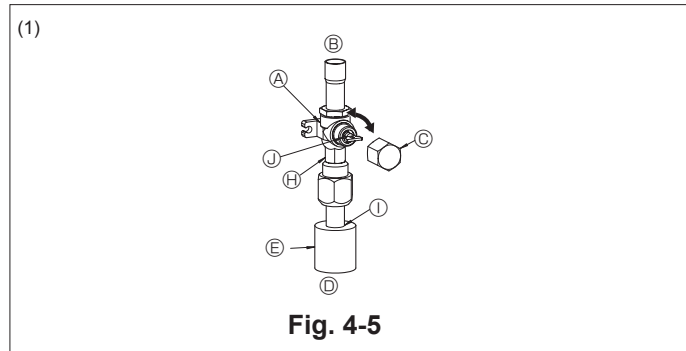
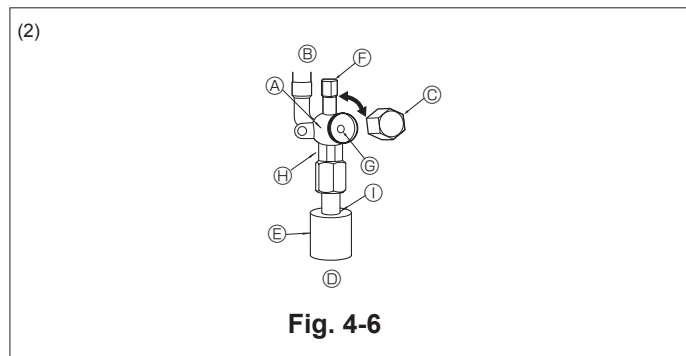

Fig. 4-5
Fig. 4-6
- (1) Gas side (Fig. 4-5)
- ① Remove the cap, pull the handle toward you and rotate 1/4 turn in a counter-clockwise direction to open.
- ② Make sure that the stop valve is open completely, push in the handle and rotate the cap back to its original position.
- (2) Liquid side (Fig. 4-6)
- ① Remove the cap and turn the valve rod counterclockwise as far as it will go with the use of a 4 mm hexagonal wrench. Stop turning when it hits the stopper. (ø6.35, 1/4 inch: Approximately 4.5 revolutions) (ø9.52, 3/8 inch: Approximately 10 revolutions)
- ① Valve body
- ② Unit side
- ③ Cap
- ④ Local pipe side
- ⑤ Pipe cover
- ⑥ Service port
- ⑦ Valve stem
- ⑧ Double spanner section